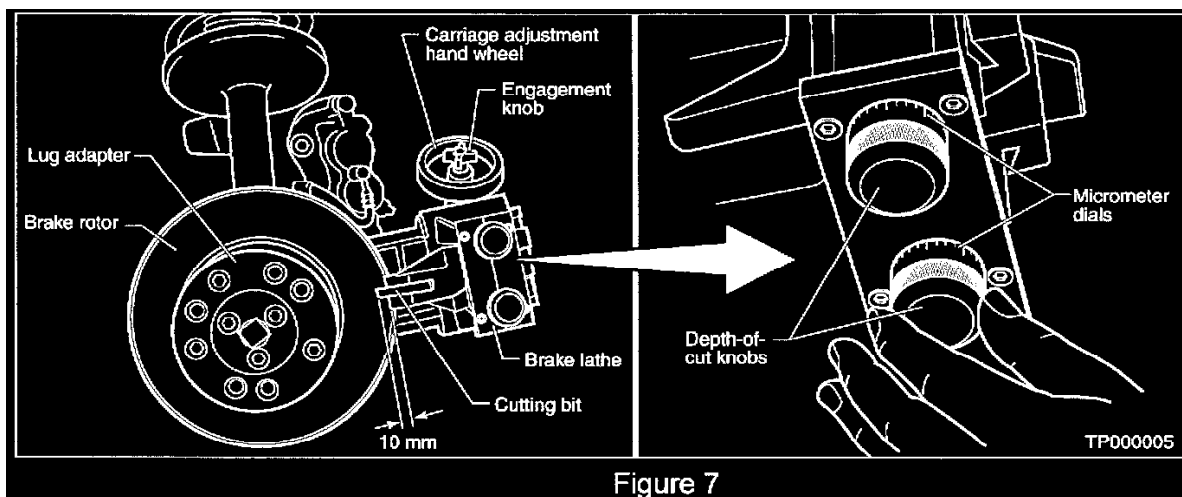

Figure 7
9. Position the cutting bits about 10 mm in from the outer edge of the rotor surface (see Figure 7).
10. Turn the (blue) depth-of-cut knob clockwise to advance the outboard cutter until it lightly contacts the rotor surface. Hold the knob still while rotating the micrometer dial to zero (see Figure 7). Then, turn the depth-of-cut knob 1 notch counterclockwise.
11. Turn the (red) depth-of-cut knob clockwise to advance the inboard cutter until it lightly contacts the rotor surface. Hold the knob still while rotating the micrometer dial to zero (see Figure 7). Then, turn the depth-of-cut knob 1 notch counterclockwise.